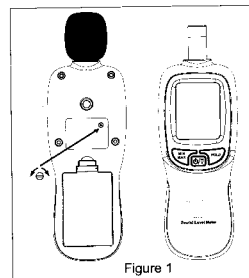

Figure 1
2. Turn on the power switch of standard sound source(94dB@1KHz), use straight screwdriver to adjust potentiometer located in the opening hole within the machine stick, and make LCD display 94.0(referring to Figure 1).